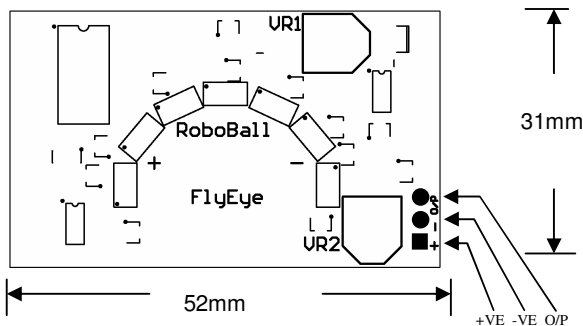
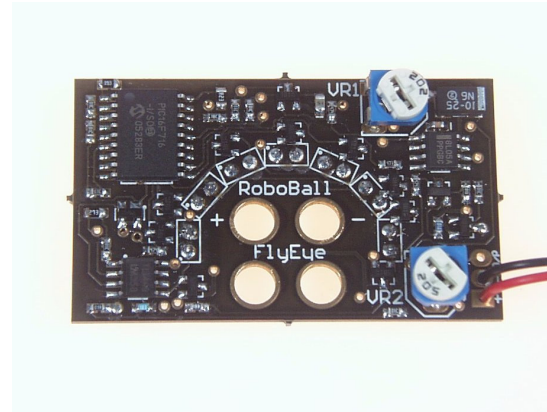
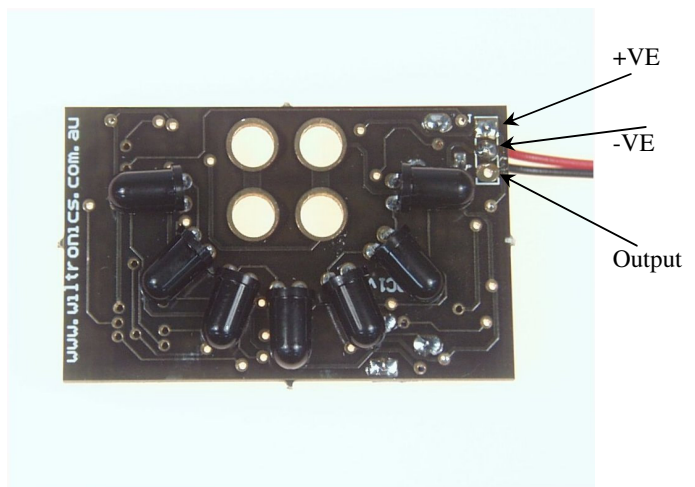

Fig.1
Fig 2
Fig. 3
1.2 Mount the **RoboBall™ FlyEye's** PCB horizontally at mid height of the **RoboBall™**. There is some advantage to mounting the **RoboBall™ FlyEye** higher and tilting it slightly downwards as this can reduce the sensitivity to external light sources around the soccer field. The vertical field of view extends  $20^\circ$  above the plane of the PCB (at 50% sensitivity) which means a bright infra-red light source may be detected in the distance if it is low enough to be within the **RoboBall™ FlyEye's** viewing region - sunlight coming through distant windows is a particular problem. Fluorescent lighting contains little infra-red light and will have less effect on the sensor than incandescent lights or sunlight. If you are careful, you might choose to bend all the photodiodes away from the PCB slightly as an alternative to tilting the PCB. The 4 holes in the PCB (see Fig.2) can be used to assist with mounting the **RoboBall™ FlyEye Sensor** to your robot. However due to slight hole size and hole to hole distance variations in the PCB manufacturing process we do not recommend that these holes are used for power connections, as they may prove to be unreliable.
2.1. There are seven photodiodes (see Fig 3) on the underside of the **RoboBall™ FlyEye** and these look in different directions. A microcontroller, built into the **RoboBall™ FlyEye**, compares the light intensity seen by each of the seven photodiodes and picks the brightest one. The **RoboBall™ FlyEye** can send 16 different voltage levels to your robot. On an RCX\* port in 'raw' mode these correspond roughly to values starting at 250 and increasing in steps of 45, i.e. 250, 295, 340, 385, 430, 475, 520, 565, 610, 655, 700, 745, 790, 835, 880 & 925. (See the 3-wire interface section for the actual voltage levels) Note these values are approximate and will depend on the exact setting of VR1 (see the adjustments section), there will also be some variation in the values during normal operation and your program must be written
3.1. There are two adjustments available on the **RoboBall™ FlyEye** set by VR1 & VR2, shown in Fig 1 & Fig 2. These are pre-set at the time of manufacture and should not need altering.
5.1 The output of the **RoboBall™ FlyEye** is available on the '3 wire' pad (see Fig 3 above and Fig 1 for a top view) for use with platforms other than an RCX\*. Simply solder an additional wire to this Output Pad and connect it to your robot's input. The **RoboBall™ FlyEye** needs between 7.2VDC and 12VDC connected to the supply pads to operate. The square pad is positive.